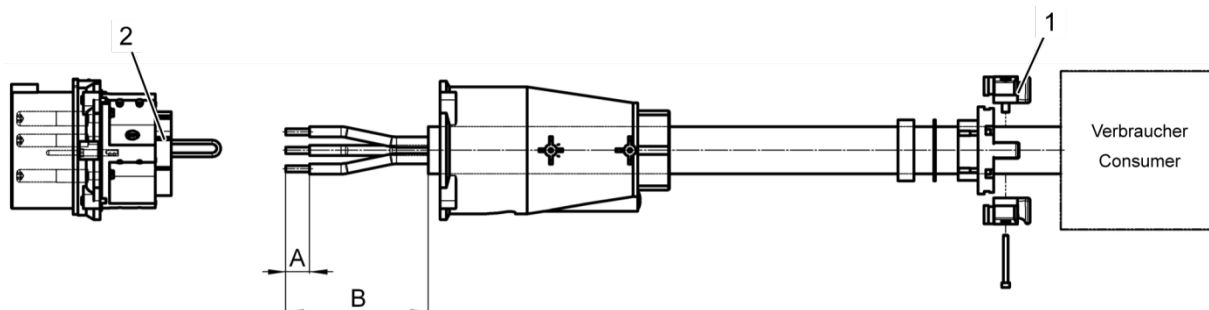
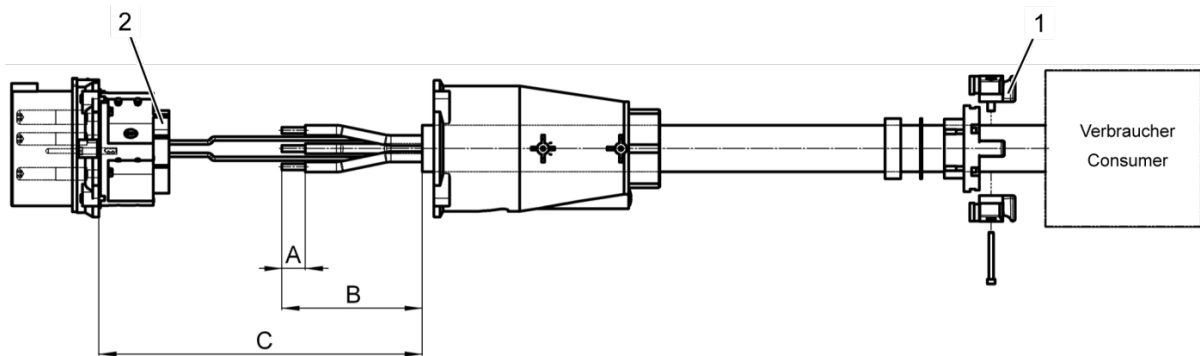
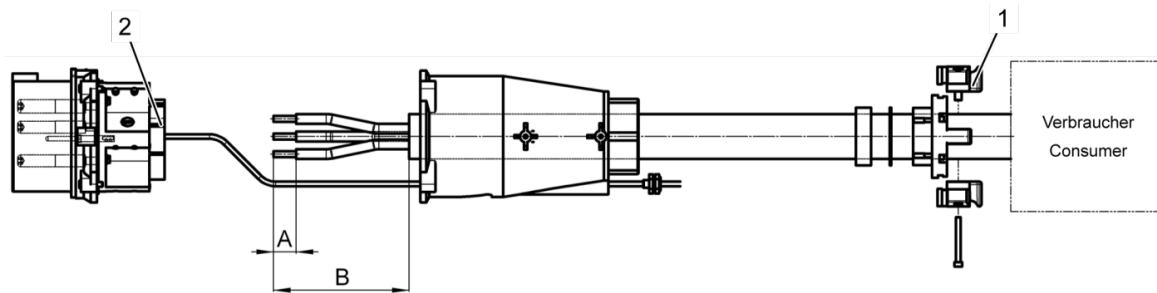

Fig. 55: Schematic for cables without pilot contacts
Fig. 56: Schematic for cables with integrated pilot contacts
Fig. 57: Schematic for cables with separate pilot contacts
- Proceed as specified in Fig. 55 if no pilot contacts are present.
- Proceed as specified in Fig. 56 if pilot contacts have been integrated.
- Proceed as specified in Fig. 57 if the pilot contacts are separate.
1. Pull the cable gland (Fig. 55 /1, Fig. 56 /1 bzw. Fig. 57 /1) over the cable
Strip off the exterior insulation along length B (Fig. 55).
2. Strip the insulation off each individual line along length A (Fig. 55).
Strip off the exterior insulation along length B (Fig. 56).
2. Strip the insulation off each individual line along length A (Fig. 56) Length C represents the length of the integrated pilot contact.
Strip off the exterior insulation along length B (Fig. 57).
2. Strip the insulation off each individual line along length A (Fig. 57).
3. Strip the insulation off the pilot contacts along length A (Fig. 57) abisolieren.
1. Screw the female contact (Fig. 55 /2, Fig. 56 /2 bzw. Fig. 57 /2) to the cable.